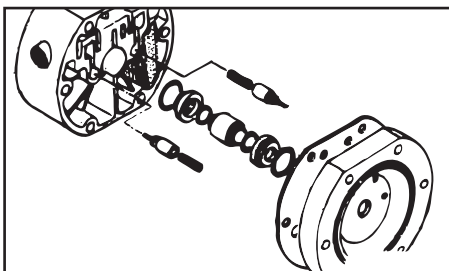

Figure 26-B
- Remove the retainer bolts from the air chamber and remove the air chamber (See Figure 26-A).